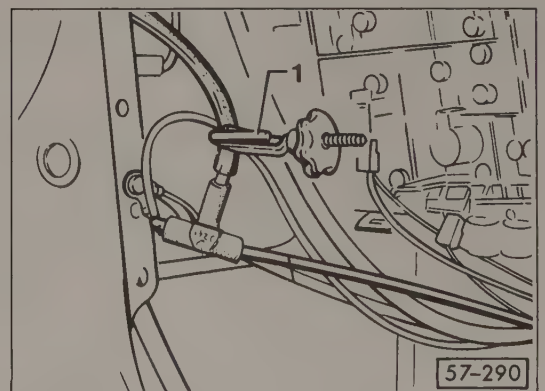

Fig. 5-12. Hose being clamped (1) in right rear of car to block air flow to gas tank flap.
6. Clamp the hose shown in Fig. 5-12. If the pump runs longer than 5 seconds when activated, then the rear lid activator or its hose is faulty. If the pump turns off within 5 seconds, the gas tank flap or its hose is faulty. Remove the clamp.